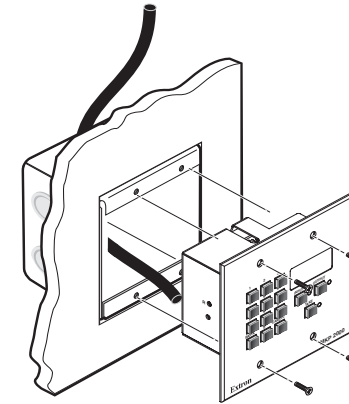

Figure 2-1 — MKP mounted in a wall box
The MKP 2000 remote control panel should be installed in a standard, 2-gang electrical wall box (figure 2-1). Figure 2-1 shows the MKP installed in a wall. This could also be in a desk, a podium, or any other convenient location.
The following Underwriters Laboratories (UL) requirements pertain to the installation of the MKP 2000 into a wall or furniture (figure 2-1).